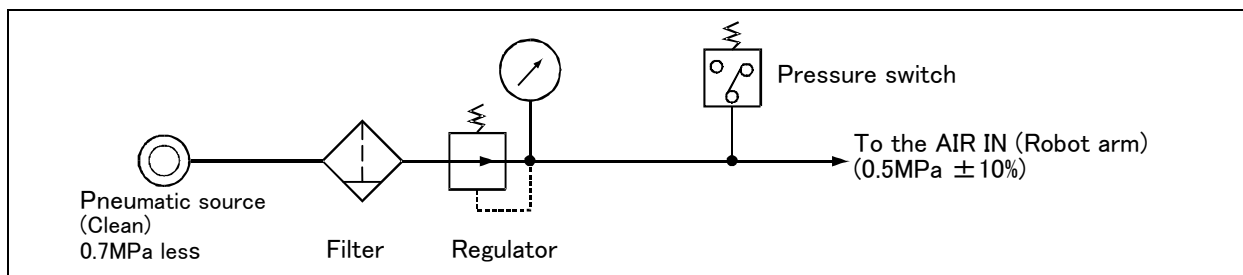

Fig.2-68 : Air supply circuit example for the hand
- (1) Make sure that a surge voltage protection circuit such as a diode is connected to the solenoid coil in parallel.
- (2) When the factory pneumatic pressure drops, as a result of the hand clamp strength weakening, there can be damage to the work. To prevent it, install a pressure switch to the source of the air as shown in Fig. 2-68 and use the circuit described so that the robot stops when pressure drops. Use a hand with a spring-pressure clamp, or a mechanical lock-type hand, that can be used in cases where the pressure switch becomes damaged.
- (3) The optional hand and solenoid valve are of an oilless type. If they are used, don't use any lubricator.
- (4) Supply clean air to the vacuum generation valve when you use clean type robot.
- (5) If the air supply temperature (primary piping) used for the tool etc. is lower than ambient air temperature, the dew condensation may occur on the coupling or the hose surface.